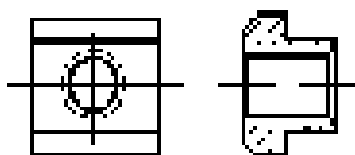

Figure 4.25 - Locking T-nut
2. Insert the locking T-nut into the goniometer track (see Figure 4.25).